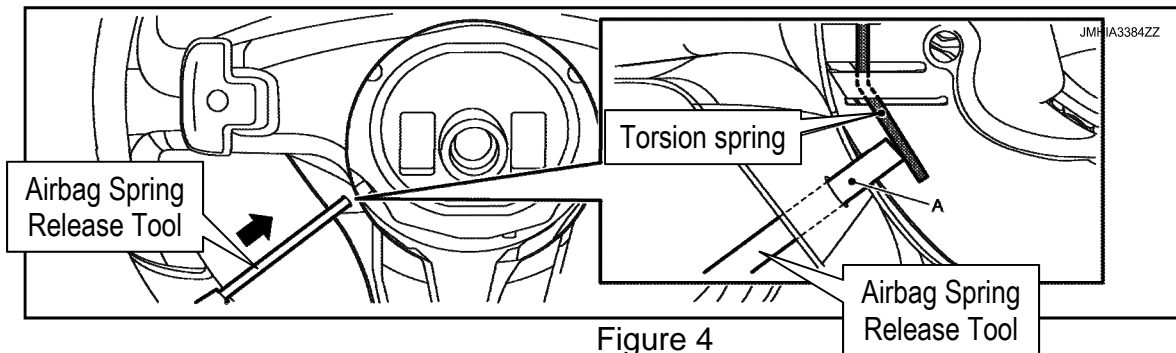

Figure 4
6. Insert the Airbag Spring Release Tool (A) into hole on the left side or the right side of the steering wheel, and then place the end of the Airbag Spring Release Tool on the torsion spring (Figure 4).